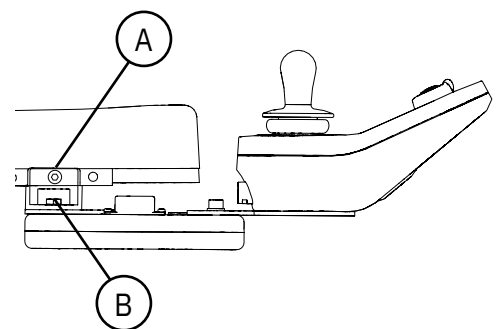

Figure 5.2. ParaLoc.
Control unites can be mounted using two types of attachment, a control arm and ParaLoc (optional). The control arm is articulated at two points and allows movement of the control unit towards the inside and outside of the armrest. The joints can either be locked in a fixed position or be mobile with an adjustable resistance. With ParaLoc, the control unit retains its direction when the control arm is rotated outwards or inwards. ParaLoc has a lock mode; this is normally placed straight ahead of the armrest. You can also adjust the lock mode by adjusting the magnetic arm, see Figure 5.2. The depth of both types of attachment are also adjustable and the attachment can be mounted on the right or left side. ParaLoc with height and tilt regulation can be adjusted to several different dimensions without the need for any further tools.
ParaLoc is adjustable in depth (A) and the position of the magnetic arm's lock mode (B) is adjustable, see Figure 5.2. For depth adjustment, see Control arm.
The control arm is adjustable in depth and the position of the magnetic arm's lock mode is adjustable as per the above, see Figure 5.2. For depth adjustment, see Control arm.